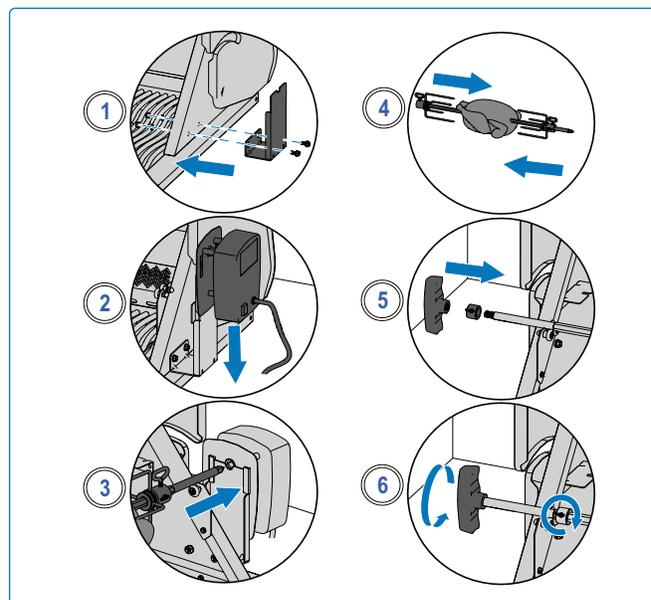

Fig. 6
5. Slide second rotisserie fork onto spit rod and push into chicken until all 3 chickens are squeezed together tightly. Tighten (**Fig. 6**).